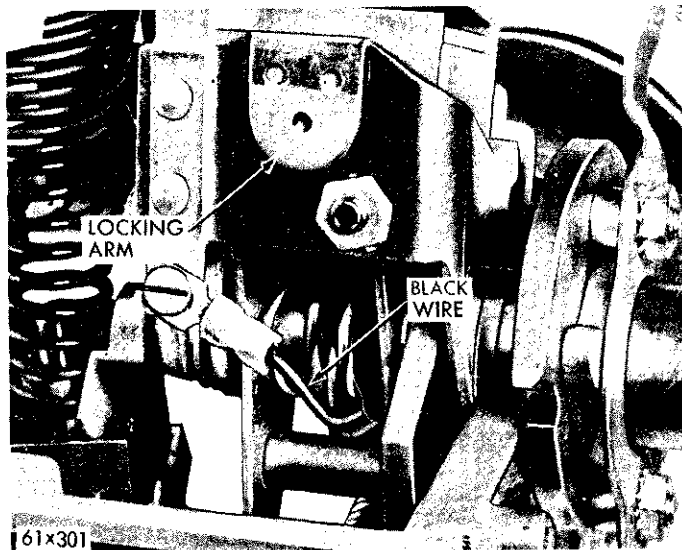
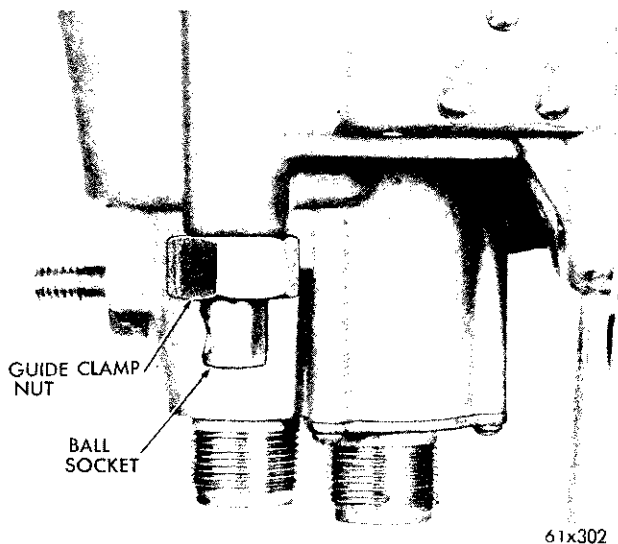

Fig. 30—Installing Black Wire to the Terminal on the Locking Arm Contact Point #2
Fig. 31—Install the Ball Socket on End of Compressor Rod
(13) Rotate the drive screw until the magnet is in an upright position. Install the motor on the housing. Make certain that the end of the motor shaft engages in the slot of the drive screw. Install the motor mounting nuts and tighten.
(14) Route the black motor wire over the pintle shaft between the legs of the magnet assembly, and connect the wire to the terminal on the locking arm (Fig. 30).
(15) Route the red motor wire under the pintle shaft, loop the wire back over the pintle shaft and connect the wire at the bottom of the contact point #1. Attach it with a screw and washer.
(16) Connect the green motor wire to the single connector on the terminal block.
(17) Install the compressor rod guide in the housing with the dimple in rod guide facing the finger assembly.
(18) Install the guide clamp nut on the housing and tighten.
(19) Lubricate the compressor rod with MoPar Lubriplate and install the compressor rod in the guide. Install the governor spring.
(20) Install the ball socket on the end of the compressor rod. While holding the housing in an upright position, tighten the ball socket until it touches the bottom of the guide clamp nut (Fig. 31).
(21) Loosen the ball socket two complete turns. (This provides the correct low speed calibration for the drive mechanism.)